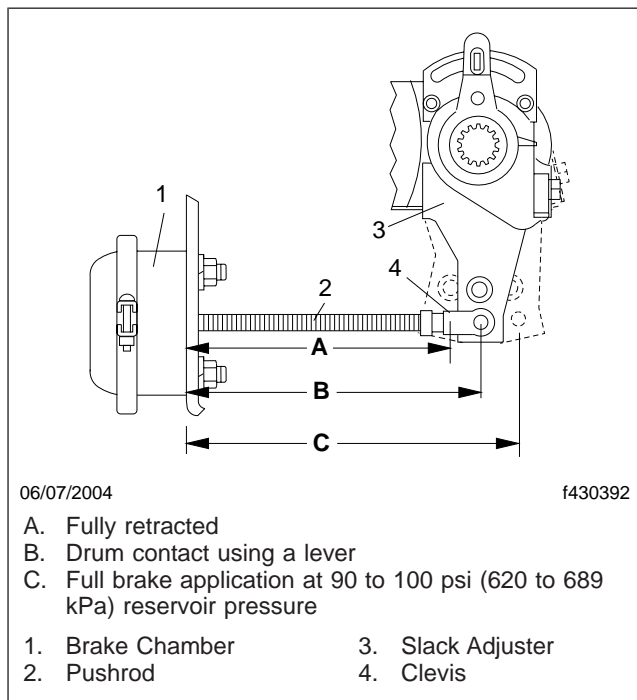

Fig. 1, Slack Adjuster Stroke Measurement
8. Install the control-arm anchor bracket, as follows. See **Fig. 1**.
Refer to Fig. 1 when making slack adjuster stroke measurements.
The applied stroke (see Fig. 1) of the brake should be checked per Commercial Vehicle Safety Alliance (CVSA) guidelines with full brake application at 90 to
Free stroke is the amount of movement of the adjuster arm required to move the brake shoes against the drum. With brakes released, measure from the face of the chamber to the center of the clevis pin "A". Use a lever to move the brake adjuster until the brake shoes contact the drum. The difference between the fully retracted and drum contact measurement "B"- "A" is the free stroke. See Fig. 1. The free stroke range should fall between 5/8- and 3/4-inch (16 to 20 mm).